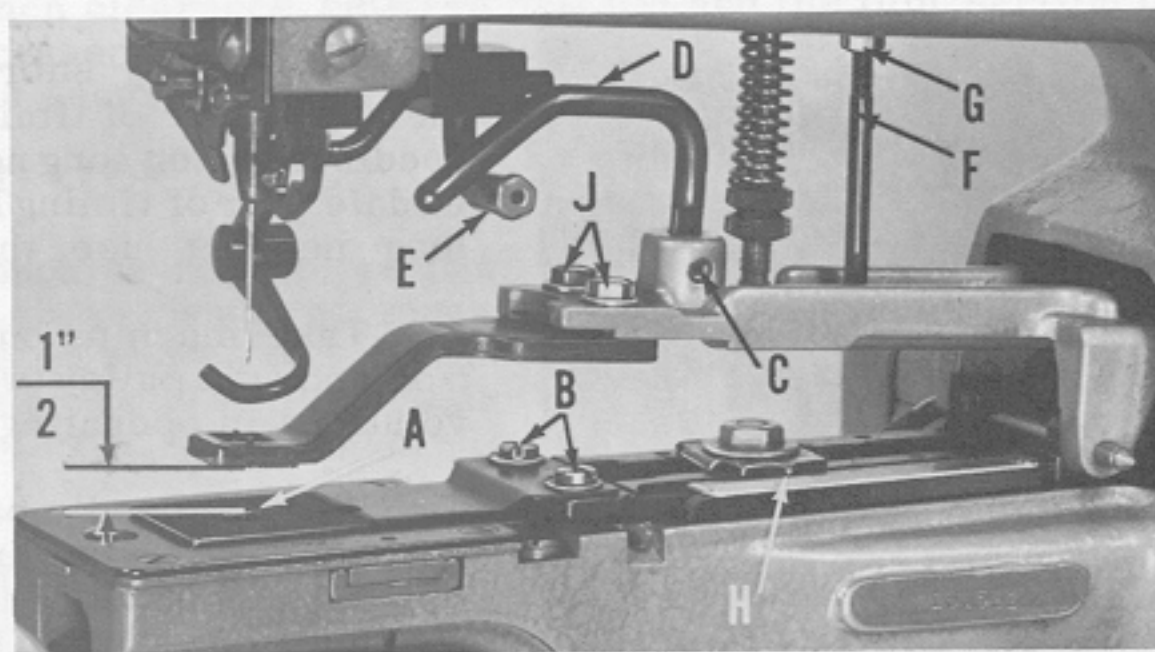
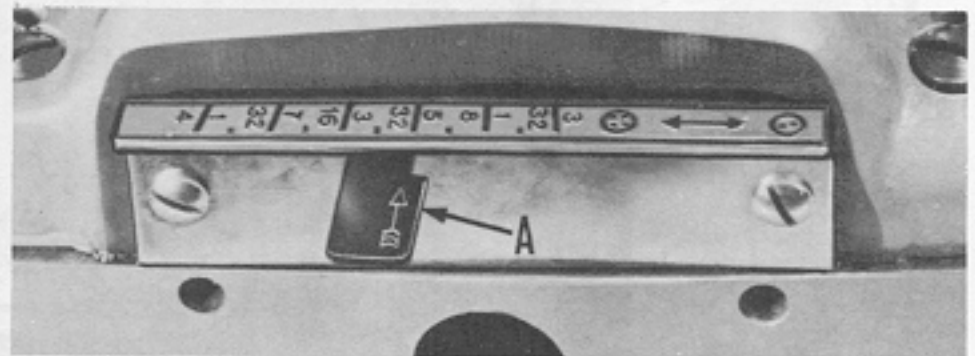

Fig. 6
Fig. 9
Make sure that the feed plate (A, Fig. 6) is set so that it does not interfere with the needle at any point of its travel.
With the machine in stop position, the normal distance between the bottom of the tacking clamp to the top of the feed plate should be 1/2 inch (Fig. 6). To make this adjustment, loosen set screw (C) and raise or lower rod (D).
Take machine out of stop position and turn pulley in operating direction until tacking clamp is in its furthest position to the rear. At this point, there must be clearance between the tacking clamp lifting rod (D, Fig. 6) and the tacking clamp lifting roller (E). Adjustment is made by loosening screw (C) and moving rod (D) up. This will affect the height of the tacking clamp in relation to the feed plate as previously described, but for the normal setting of 1/2 inch, no interference between lifting rod and roller will occur.
Return the machine to stop position and check the position of the tacking clamp stop pin (F, Fig. 6). Its purpose is to prevent overthrow of the tacking clamp so that the needle will not strike any part of the tacking clamp. Insufficient clearance between the stop pin and the tacking clamp holder will cause the machine to re-cycle. Height of stop pin (F) can be adjusted after loosening nut (G). When correct height has been obtained, tighten nut (G) against bed arm securely.
Accurately measure the distance between the holes of the tack and set the pivot indicator (H, Fig. 6) and spring indicator (A, Fig. 9) to the graduations corresponding to the distance between the holes in the tack.
Take the machine out of stop position, turn slowly by hand and observe that the needle enters the tack and clears the cutting knife of the clamp. Equal distance should be maintained from the needle holes to the cutting knife when the needle enters in front of and behind the cutting knife. The tacking clamp may have to be shifted to obtain this condition. Loosen screws (J, Fig. 6) to make this adjustment. . . . retighten screws.